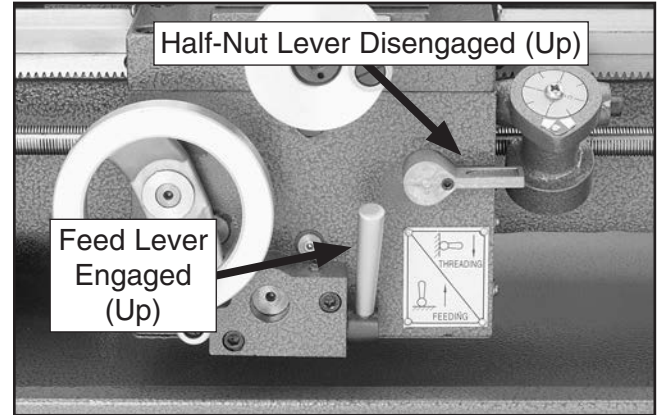

Figure 54. Feed lever in the engaged (up) position.
4. Push the feed lever up to engage the carriage gears with the leadscrew (see **Figure 54**).
5. Push the half-nut lever up to disengage the half-nut from the leadscrew, as shown in **Figure 54**.